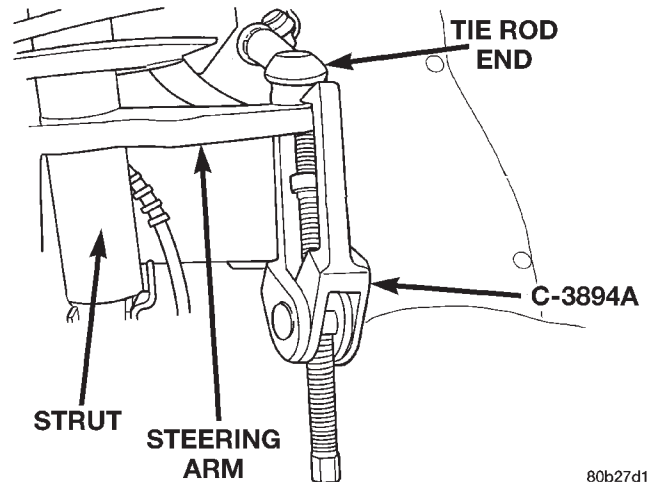

**Fig. 52 Removing Outer Tie Rod From Steering Arm**
(6) Loosen, but do not remove, the right outer tie rod end to strut arm attaching nut. Release right outer tie rod end from right strut steering arm using Puller, Special Tool C-3894A (Fig. 52), then remove nut and tie rod from the steering arm.